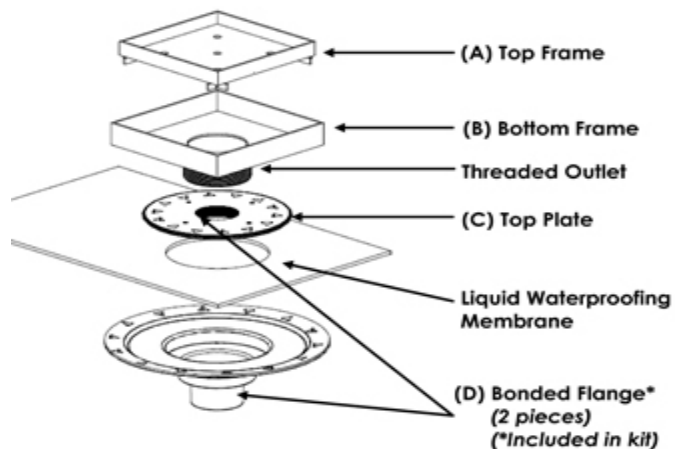
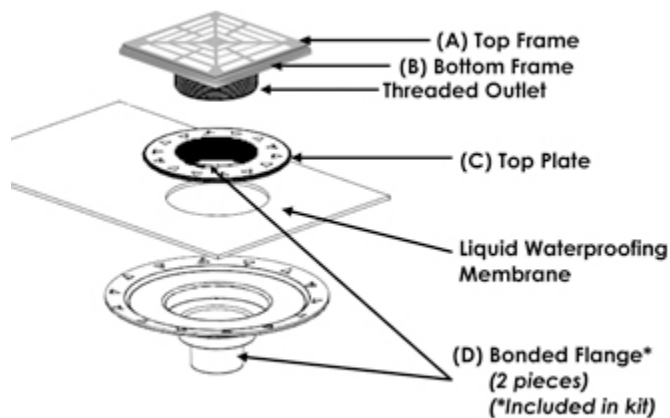

Fig. 1
Fig. 2
HYDRO BAN Bonding Flange Drain should sit approximately 1-1/4" (32 mm) above the substrate. Dry fit the HYDRO BAN Bonding Flange Drain through the hole and to the waste line below. When connecting to a 2" (50 mm) waste line which is already in place the top of the waste line should be 1-3/4" (44 mm) below the surface of the substrate. Make sure that the HYDRO BAN Bonding Flange Drain is PVC when connecting to a PVC waste line or ABS when connecting to an ABS waste line. Cement the HYDRO BAN Bonding Flange Drain in place using PVC solvent and cement for PVC and ABS solvent and Cement for ABS HYDRO BAN Bonding Flange Drain and waste line connections. Make sure that the HYDRO BAN Bonding Flange is level before the PVC or ABS cement has cured. DO NOT MIX materials, this will cause a failure in the pipe weld. When installed over EGP the bonding flange (D) Fig 1 and 2 can be screwed to the substrate using stainless steel or zinc coated 3" (76 mm) drywall screws. There are four countersunk holes around the perimeter of the bonding flange (D) for this purpose. The installation is now ready to accept the mortar bed.
Installing HYDRO BAN and Tile (Fig. 1 and Fig. 2)
3. Tile walls and floors; when thin-set and tile are ready to be installed around the HYDRO BAN Bonding Flange Drain comb thin-set onto bonding flange (D) and set top plate (C) onto the bonding flange. Thin-set should ooze through the triangle voids in the top plate
- (C). Scrape any excess thin-set from the top plate (C) using a trowel. As you tile closer to the top plate insert the threaded outlet of the top and bottom frame (A and B) into the top plate (C). Adjust the top and bottom frame by screwing in the threaded outlet to the top plate (C) to allow for height adjustment (fig. 2). Thin-set over the top plate (C) and install tile.
4. If using the tile-in grate with the HYDRO BAN Bonding Flange Drain, remove top frame (A) and prime surface with two coats of HYDRO BAN prior to installing tile within the frame using a polymer fortified thin-set. Make sure that the stainless steel top frame (A) is free of grease, dirt or finger prints prior to applying the HYDRO BAN.